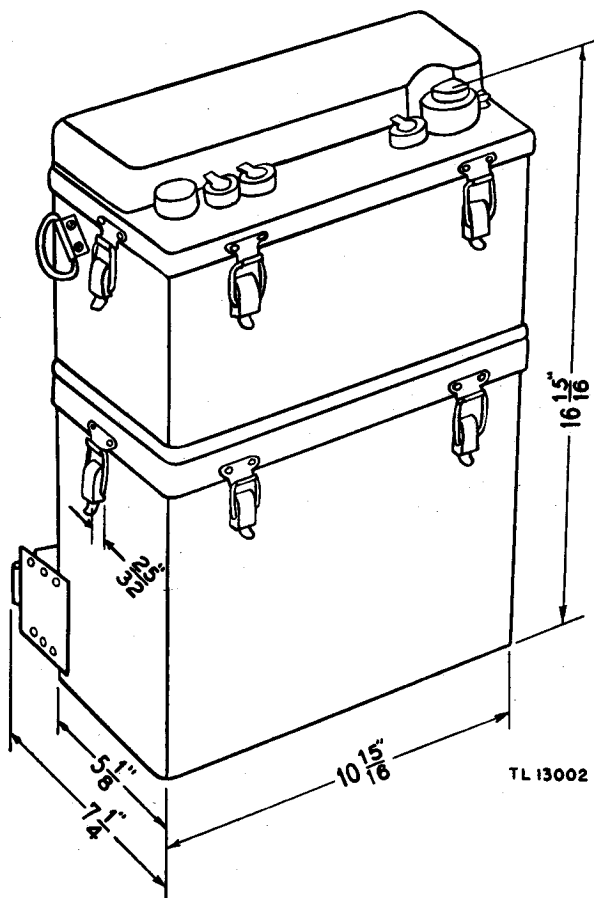

Figure 5. Radio Receiver and Transmitter BC-1000-A—outline dimensional drawing.
a. The single Radio Set SCR-300-A is packed in a cardboard carton $20\frac{7}{8}$ inches long, $15\frac{1}{8}$ inches wide, and $10\frac{1}{4}$ inches deep. The total weight is $35\frac{1}{2}$ pounds. For dimensions of the unpacked set, see figure 5 and consult table II.